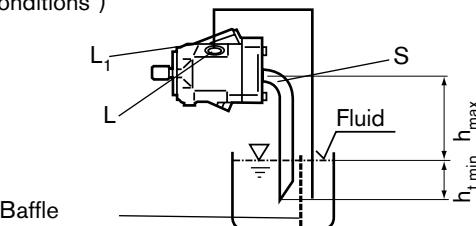

Fig. 4
b) If the min. fluid level is below the top of the pump: pipe "L" and "S" acc. to fig. 4, "L1" plugged (see also limit of conditions).
a) Mounting above the tank: see fig. 4. (see also "Limit of conditions")